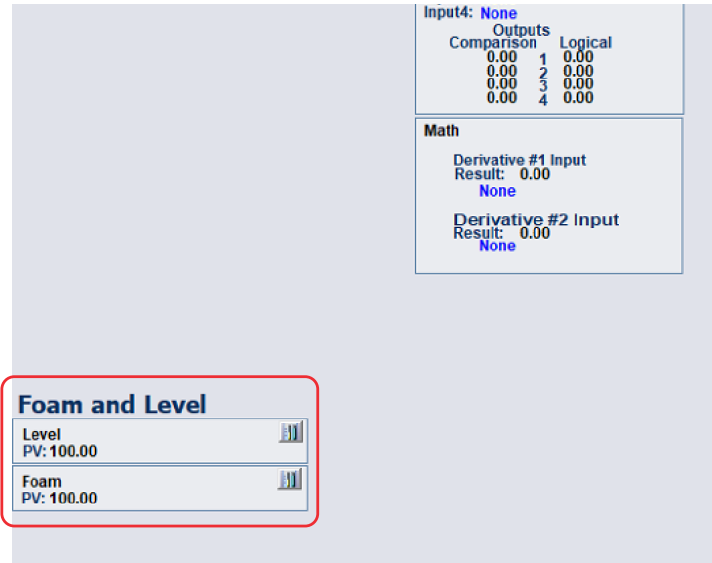
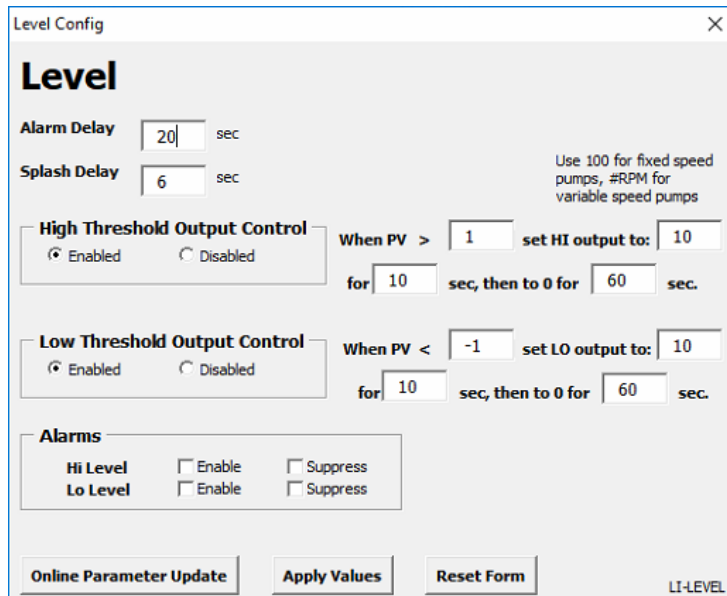

Figure 5.55. Foam and level buttons shown on Configuration screen.
Figure 5.56. Level configuration form.
1. Click the desired control module on the **Configuration** screen (Figure 5.55) to open the configuration form for the parameter. Figure 5.56 shows the **Level** form, and Figure 5.57 shows the **Foam** form.
- Click **Apply Values** to save the settings. The PV is displayed on the **Configuration** screen, as shown in Figure 5.55.